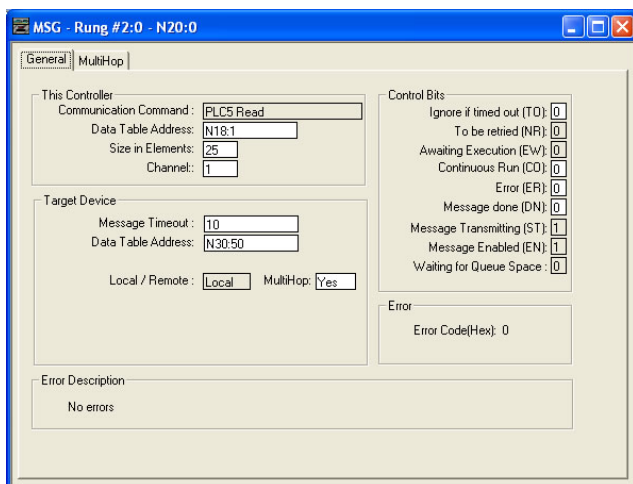

Figure 121: MSG Configuration, "General" Tab
- Upon hitting the <ENTER> key while in the "Control Block" entry box, the MSG Properties dialog box should appear (or it can be opened by clicking on the "Setup Screen" button at the bottom of the MSG instruction). Refer to Figure 121.